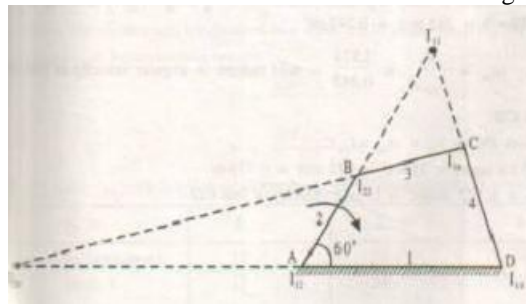

Fig. 2.6
2. Locate all the instantaneous centers for the four bar mechanism shown in the figure as shown in fig.2.6